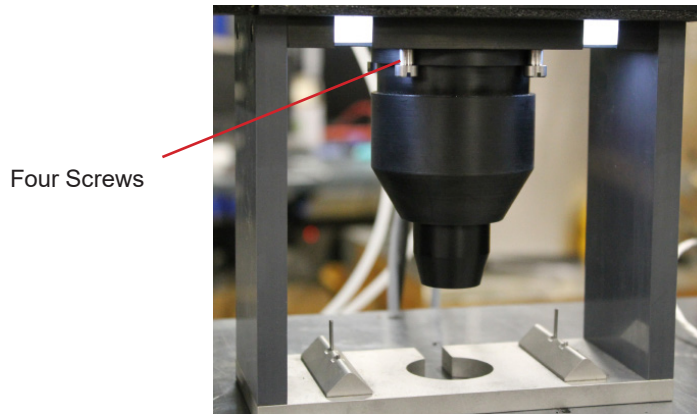

Figure D.1 - Load frame screw location
1. There are four screws securing the shroud to the load frame (Figure D.1). Loosen the back two screws slightly, and completely remove the front two screws. This should allow you to remove the shroud from the frame.